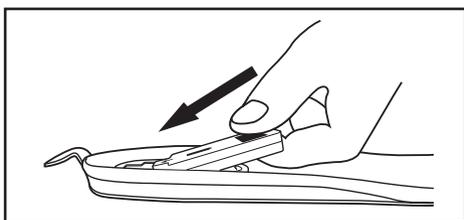

Figure 9
4. With the connectors aligned, slide the battery towards the Insole connector. Then slide the battery connector into the Insole connector (Figure 9) and press the battery all the way down in to the battery compartment. The battery will be fully nested inside the Insole battery compartment.
2. Lay both sides of the Remote Control open on a table (see Figure 9). Remove the green printed circuit board and turn the board over so the battery holder is facing up. Using a coin, carefully push the battery out from under the battery holder.